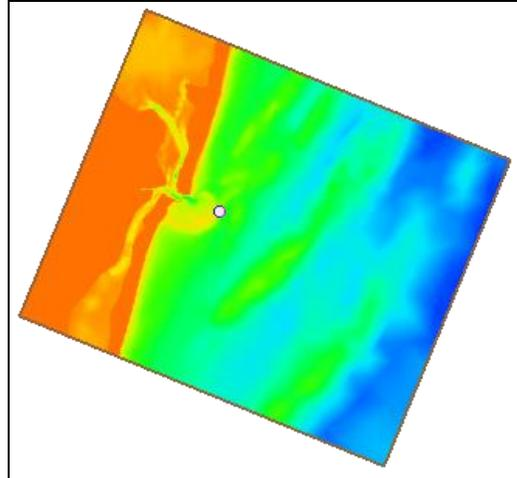

Figure 6 Save point
7. Using the **Create Feature Point**  tool, create a feature point within the grid area as in Figure 6.